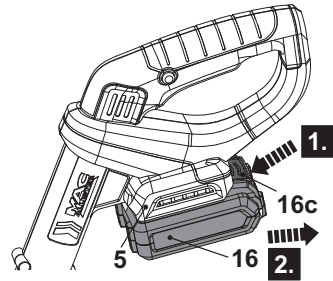

Fig. 5
2. Press the release button (16c) and remove the battery pack (16) from the battery docking port (5) (Fig. 5).